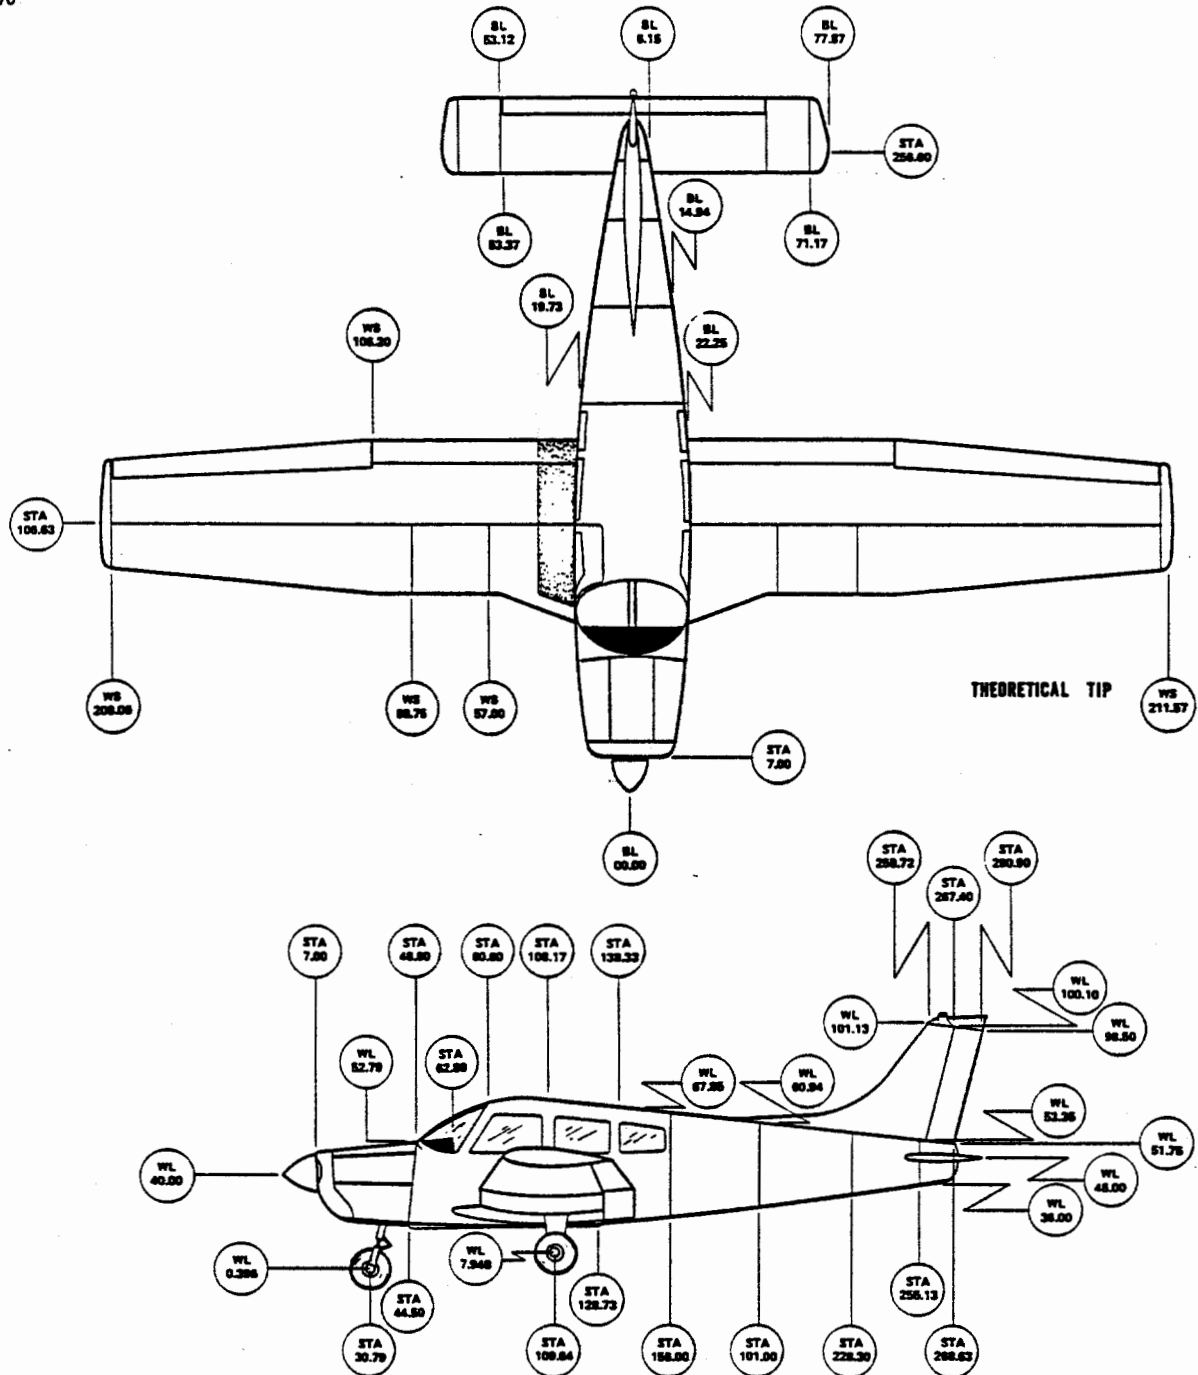

Figure 2-2. Station Reference Lines
2-3. STATION REFERENCE LINES. In order to facilitate the location of various components of the airplane which require maintenance and servicing, a method utilizing fuselage station (Sta.), wing station or buttock line (BL), and waterline (WL) designations is frequently employed in this manual. (Refer to Figure 2-2.) Fuselage stations, buttock lines, and waterlines are reference points measured by inches in the vertical or horizontal direction from a given reference line which indicates station locations of structural members of the airplane. Station 0 of the fuselage is 44.5 inches ahead of the lower edge of the fire wall; station 0 (BL) of the wing and stabilator is the centerline of the airplane; and station 0 (WL) of the fuselage vertical stabilizer and rudder is 20.5 inches below the cabin floor as measured at the rear wing spar with the airplane level. The reference datum line is located 78.4 inches ahead of the wing leading edge at the intersection of the straight and tapered section.